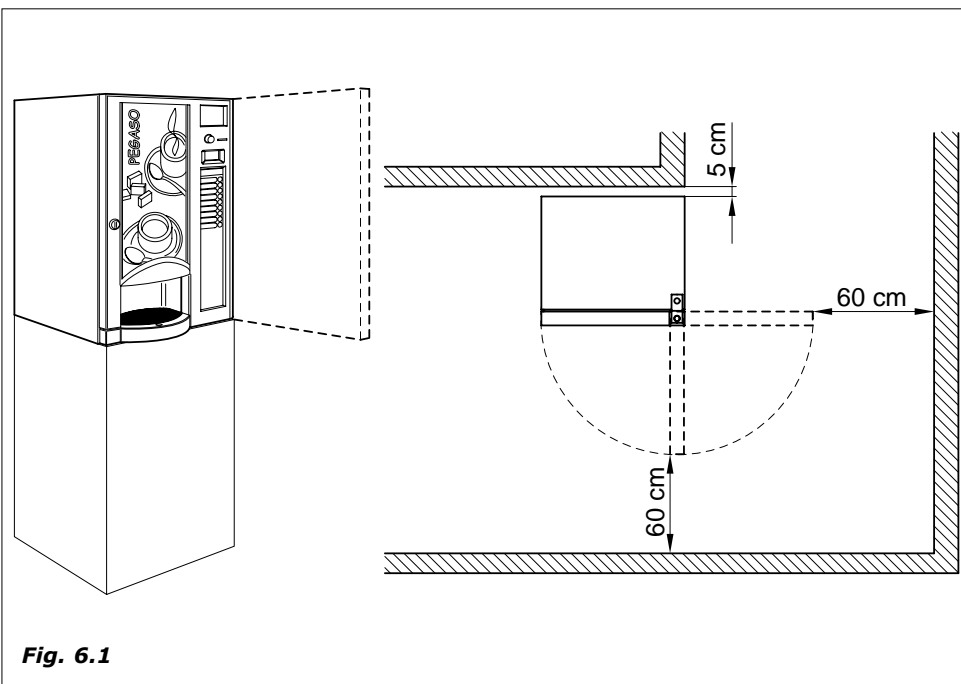

Fig. 6.1
- If positioned near to a wall, there must be a minimum distance from the wall of at least 5 cm. (Fig.6.1) so as to allow a regular ventilation. In no case cover the distributor with cloths or similar.
If the installation is made in safety evacuation corridors make sure that with the distributor door open there is anyhow sufficient space to pass by (Fig.6.1).